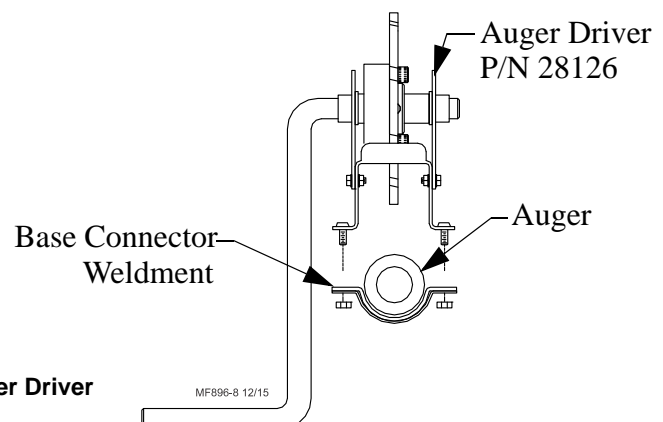

Figure 63. Auger Driver
- The power unit and driver assemblies must be removed from the base connector weldment. An auger driver must be installed on each base connector weldment, **see Figure 63.**
Push the auger, by hand, to the first auger driver. The auger driver may then be used to pull the auger through the tubes. An auger driver should be installed at each motor location to aid in pulling the auger around the system, **see Figure 63.**